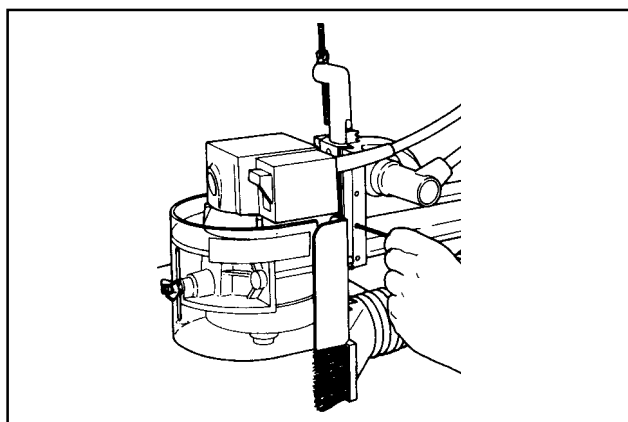

Figure 8. If required, use a 1/8" Allen wrench to achieve proper Gib pressure.
If it does slip, the Brass Gib is set too loose against the side surface of the Dovetail Slide. To adjust the Gib, use a 1/8" Allen wrench to tighten the four setscrews (26) uniformly in small increments until the proper Gib pressure is achieved (see Figure 8). When adjusted properly, the Depth Control Handle should move the motor freely without any "slop" between the arm and the dovetail slide.